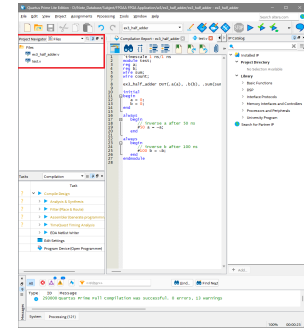

Figure 15: Select "Files" option
6. Select "Files" option to see all files in the project. (Figure 15)